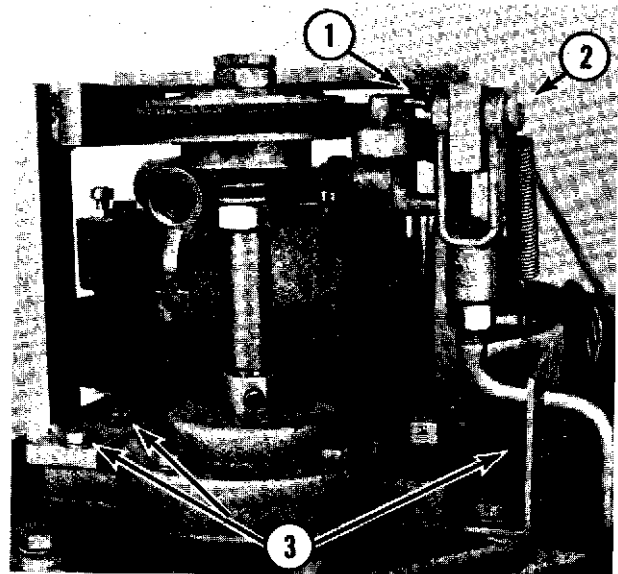

Fig. 8-1
- A. To replace the Flexa-Gear, remove the cotter pin (1, Fig. 8-1) and the clevis pin (2, Fig. 8-1).
- B. Remove the four hex head bolts (3, Fig. 8-1) and swing the clutch operating mechanism away from the clutch operating cam bearing.